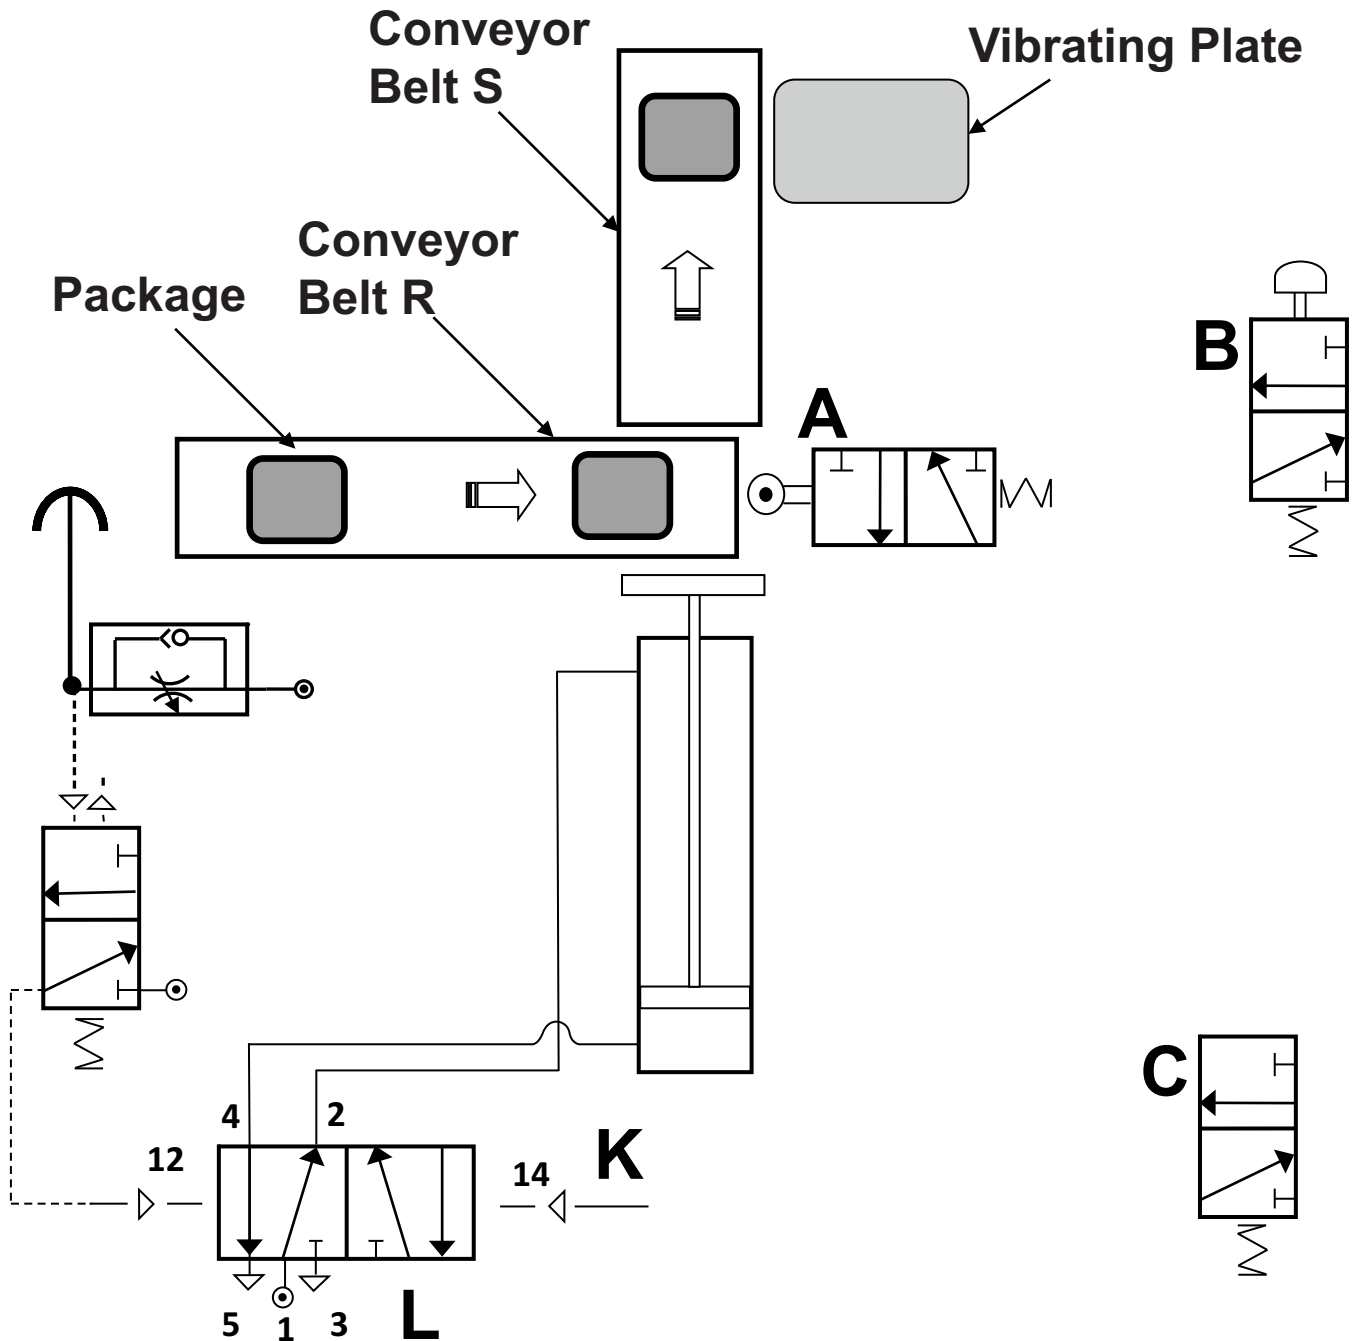

Fig. 7
- (f) Complete the circuit shown on **Fig. 7** to enable activations at **A** or **B** to signal **C** for activation which in turn activates the five port valve at **K** after a time delay. [5 marks]